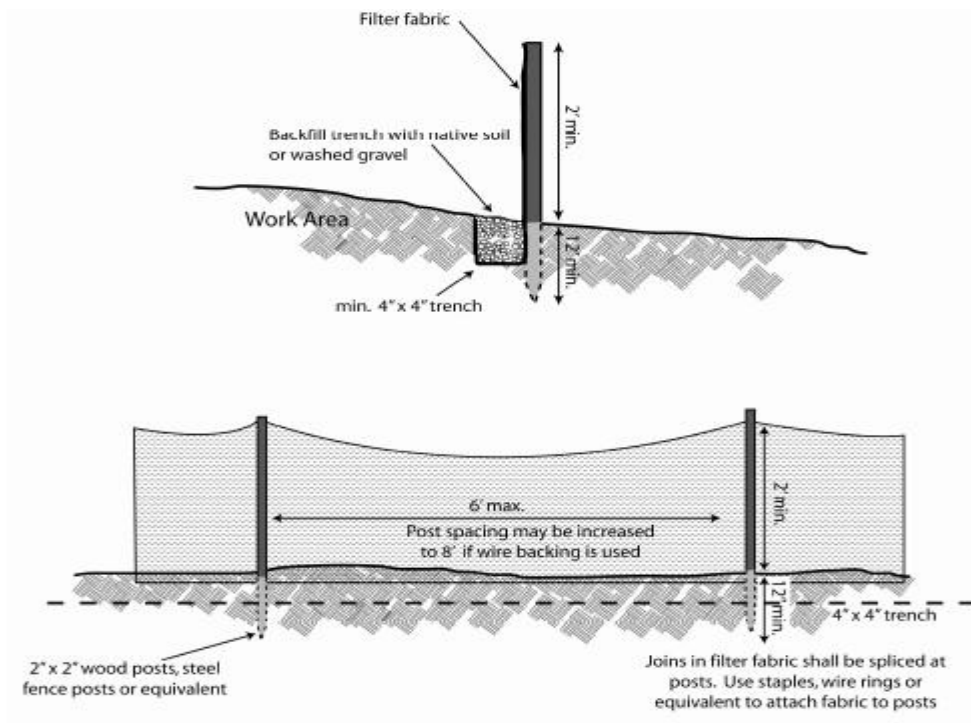

Figure 2 Silt Fence Diagram
2. The fabric at the bottom of a silt fence must be firmly anchored into the soil by burying it in a "J" configuration in a trench that is backfilled. See Figure 2.